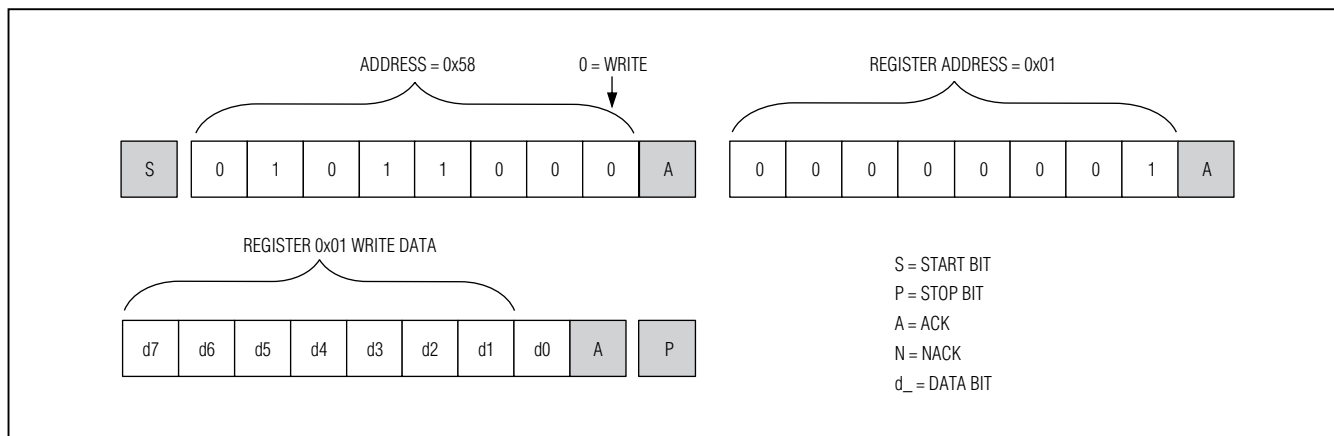
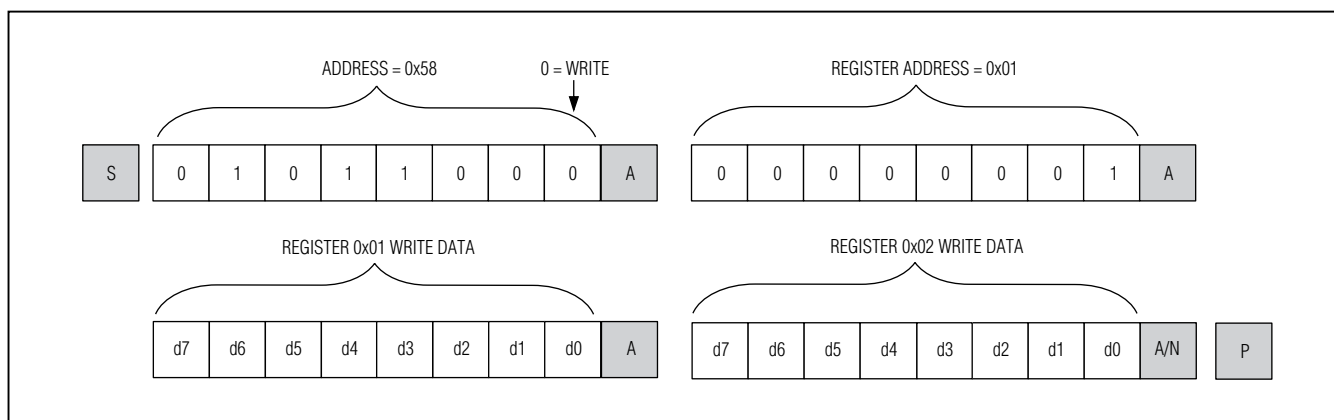

Figure 9. Format for I²C Write
Figure 10. Format for Writing to Multiple Registers
A write to the MAX14578E comprises the transmission of the slave address with the $\overline{R/W}$ bit set to zero, followed by at least one byte of information. The first byte of information is the register address or command byte. The register address determines which register of the MAX14578E is to be written by the next byte, if received. If a STOP (P) condition is detected after the register address is received, the MAX14578E takes no further action beyond storing the register address (Figure 9). Any bytes received after the register address are data bytes. The first data byte goes into the register selected by the register address, and subsequent data bytes go into subsequent registers (Figure 10). If multiple data bytes are transmitted before a STOP condition, these